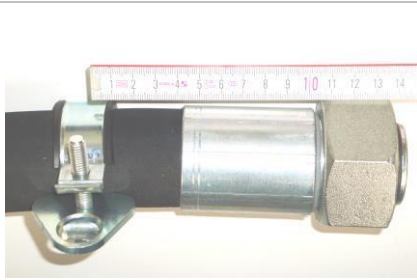
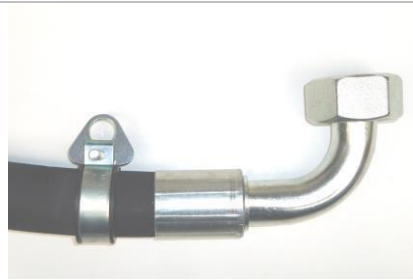

Fig. 1
Fig. 2
- Set the distance of 45 mm between the hose clamp and the crimp socket [Fig. 1]. In the case of curved fittings, you must also pay attention to the installation position of the rope bearing for pipe bending [Fig. 2].